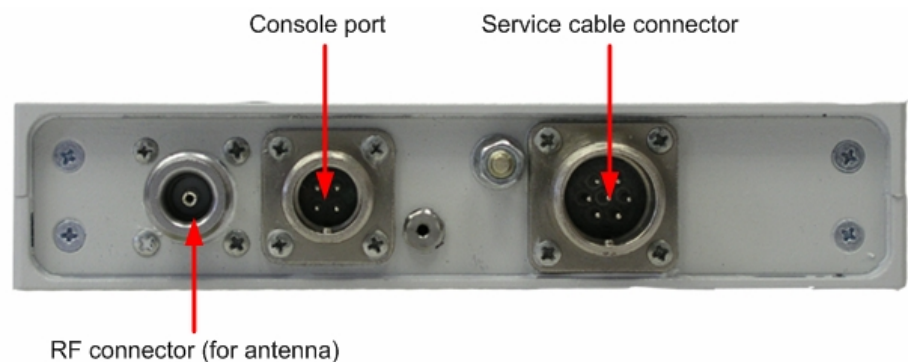

Figure 2. 5000-O ODU Front
1. Using InfiNet Console Cable please connect the router’s console port (see Fig. 2) to the COM-port of your PC/Laptop